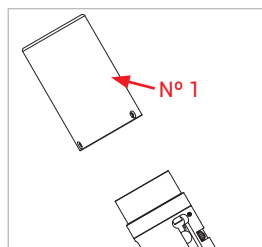

Figure 7
- ▶ Retirez doucement le manchon de protection anti-choc (n° 1) (Figure 7).